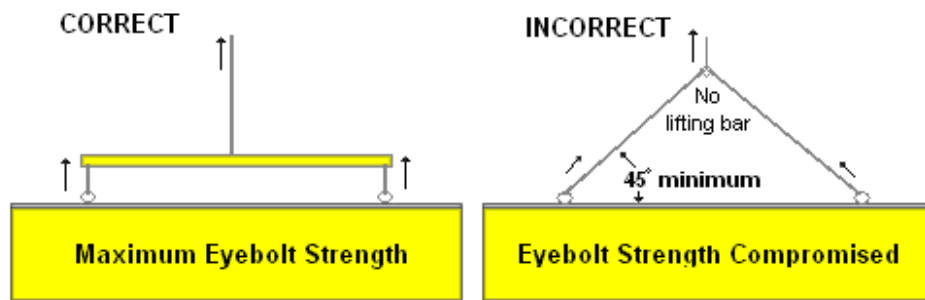

Figure 5: Correct/Incorrect Lifting Procedures
1. Lift the display into position on the support structure following the guidelines in Figure 5.